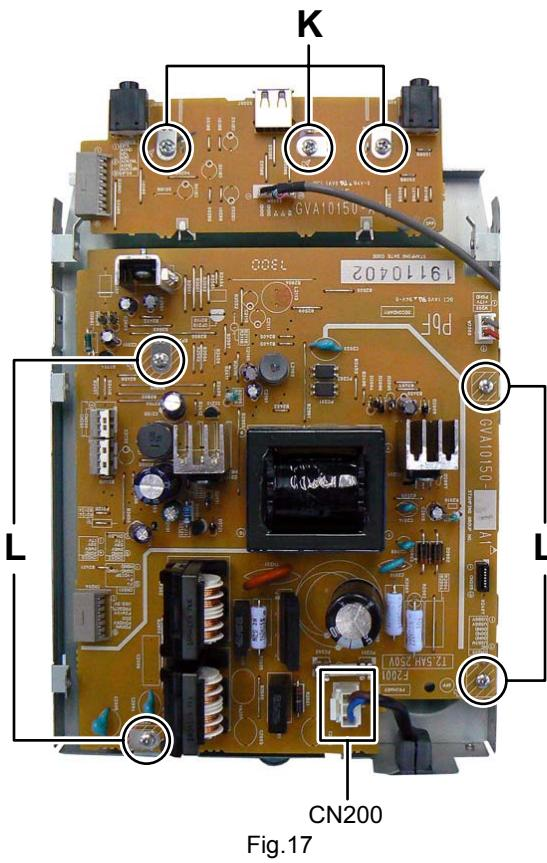

Fig.17
3.1.9 Removing the USB jack board (See Fig.17)
- (1) Remove the three screws **K** attaching the USB jack board.
3.1.10 Removing the Power board (See Fig.17)